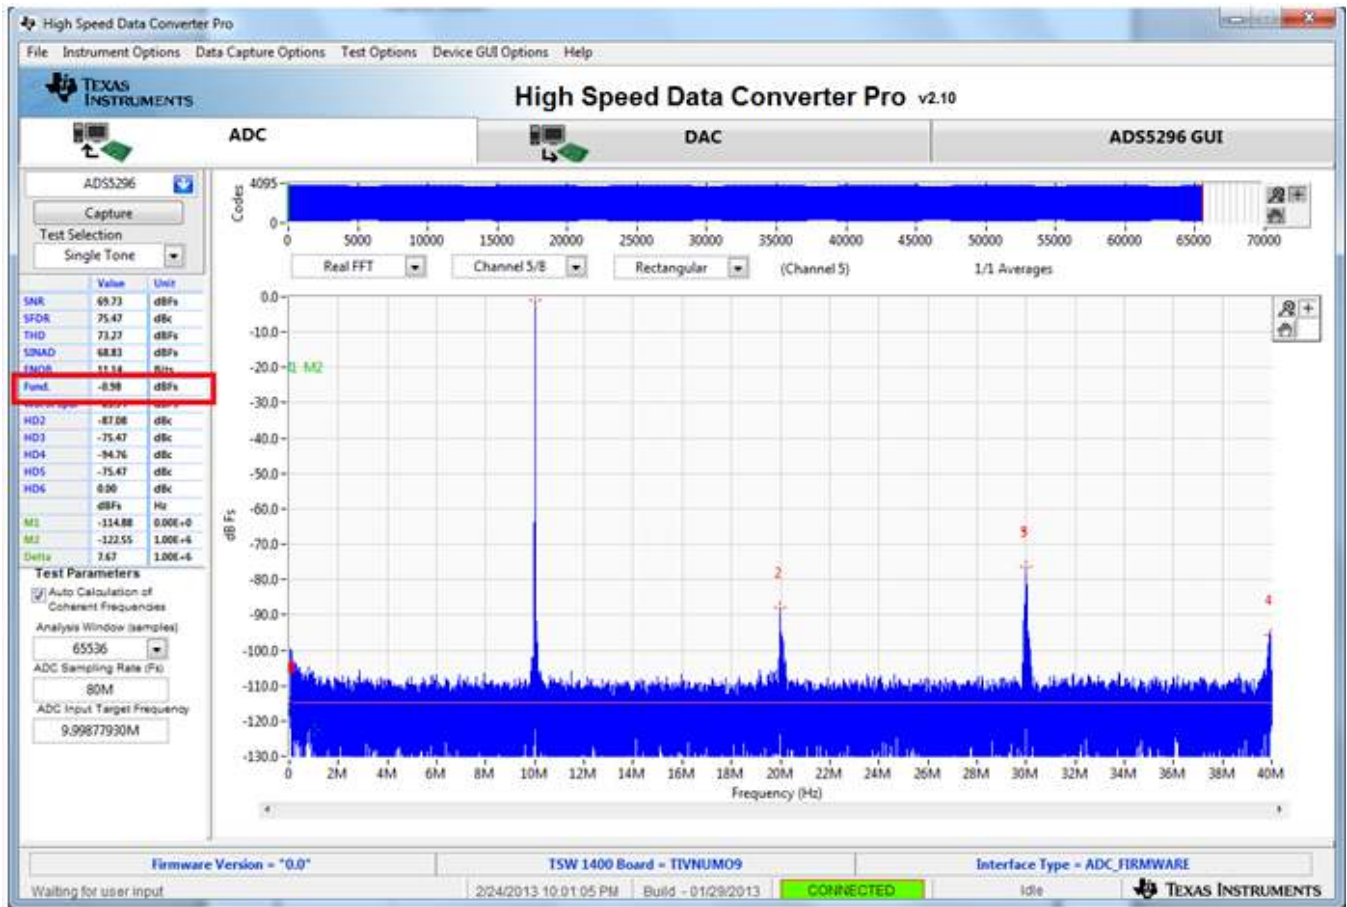
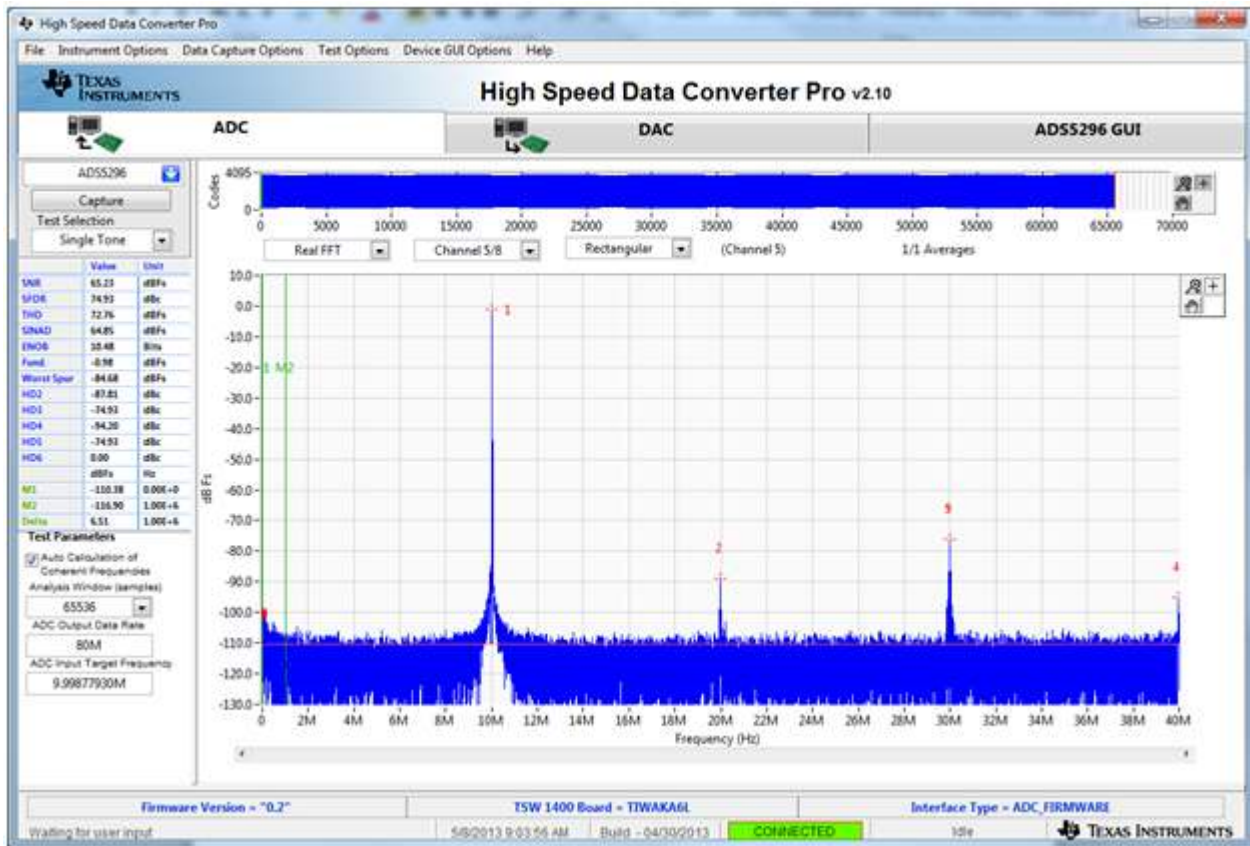

Figure 42. Octal Non-Interleaving Mode Capture 2
Figure 43. Octal Non-Interleaving Mode Capture 3
6. After re-capturing, the *Fund.* value is now closer to -1.0 dBFS as shown in Figure 42.
The SNR computed is highly dependent on the phase noise of the input signal source. Figure 42 and Figure 43 are with the exact same configuration, the only difference being the instrument used to provide the 10-MHz input signal. A 4.5 dB difference in the computed SNR is observed and is attributed solely to the integrity of the input signal, specifically the close-in phase noise.
The plot and all calculations will be updated accounting for these removed bins as shown in Figure 46. The SNR is now very close to the Software Filtering Menu SNR shown in Figure 43 using a superior instrument.